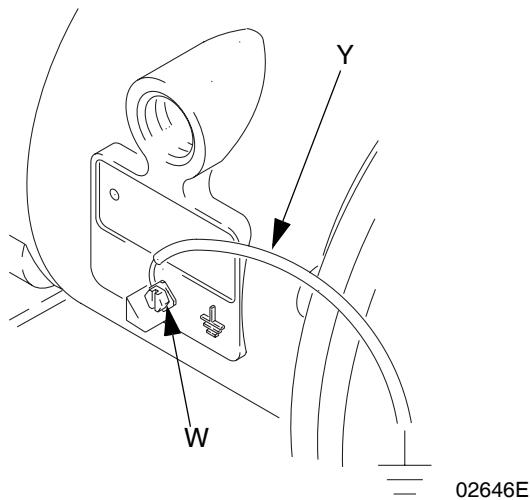

FIG. 1
Pump: Connect a ground wire and clamp as show in FIG. 1. Loosen the grounding screw (W). Insert one end of a 12 ga (1.5 mm@) minimum ground wire (Y) behind the grounding screw and tighten the screw securely. Connect the clamp end of the ground wire to a true earth ground. Order Part No. 222011 Ground Wire and Clamp.